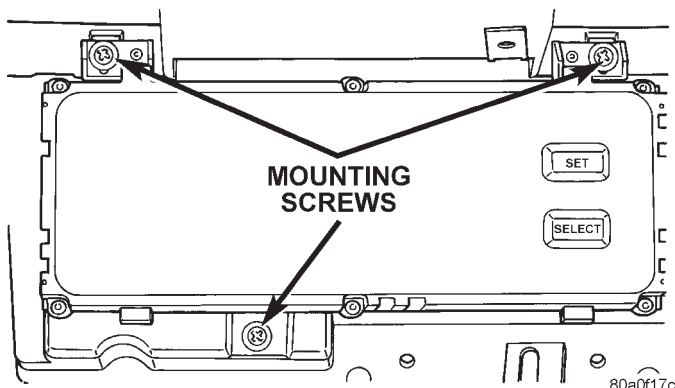

Fig. 12 Graphic Display Module and Vehicle Information Center Remove/Install
(2) Remove the three screws that secure the Graphic Display Module (GDM) or Vehicle Information Center (VIC) to the instrument panel armature (Fig. 12).